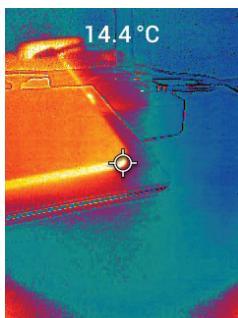

Figure 5.1 Combined Thermal and Visible Image (MSX®)
6. The temperature reading on the display represents the measurement of the targeted spot. See **Figure 5-1**.